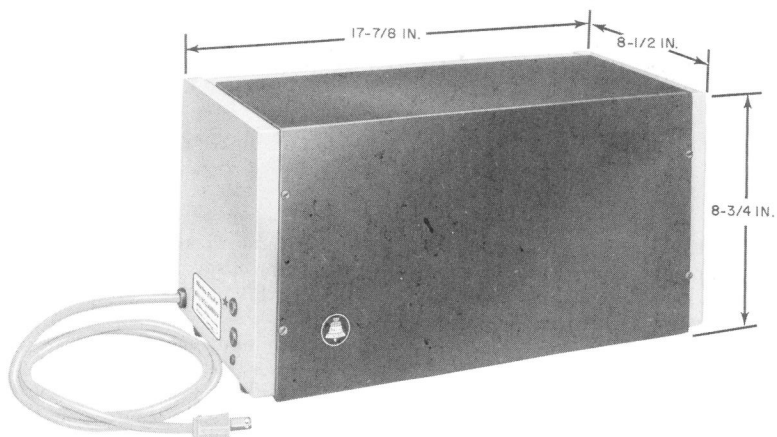

Fig. 1—KS-16765, Lists 1 and 2 Announcement Sets, Dimensions
1.03 These announcement sets (Fig. 1) contain fragile apparatus. To prevent damage, handle the sets carefully at all times.
- (1) Remove front cover
- Loosen four captive screws in front of cover (Fig. 1). Slide cover forward.
- (2) Remove rear cover